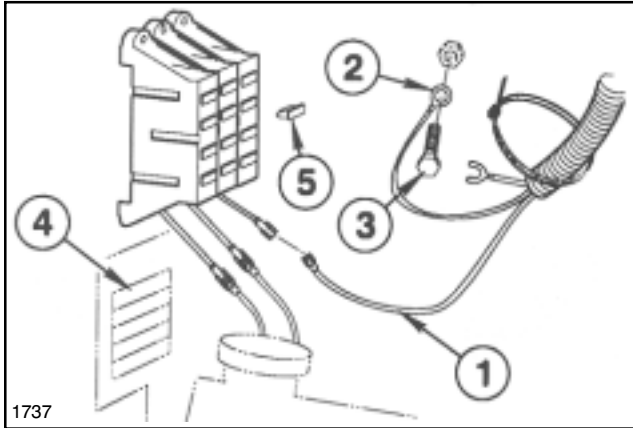

FIG. 23
13. Install five (5) Fuse Decals. Connect power wire to available Vehicle Fuse Block lead, and connect ground wire to ground bolt as shown in FIG. 23.